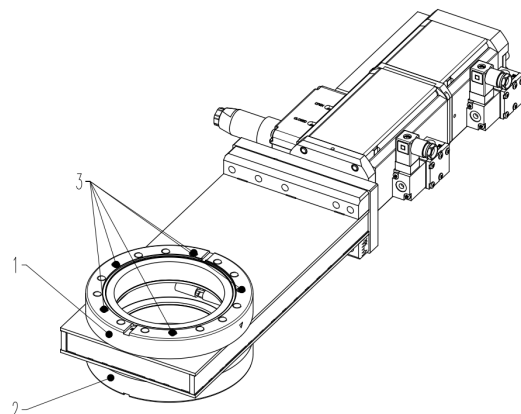

Figure 4-1
see (1) and (2) according to «Figure 4-1» on page 11.
8. Mount the four screws (3) according to «Figure 4-1» on page 11, evenly in crosswise order until the seal touches the sealing surface.